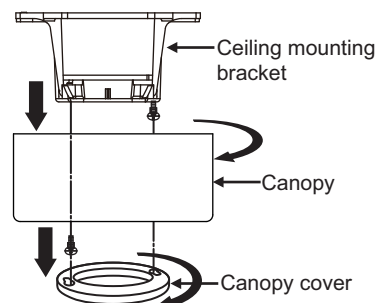

Fig. 5
Step 1. Remove the decorative canopy bottom cover from the canopy by turning the cover counter clockwise. (Fig. 5)
Step 2. Remove the ceiling mounting bracket from the canopy by removing and saving one of the two screws. Loosen the remaining screw by a half turn. (Fig. 5)